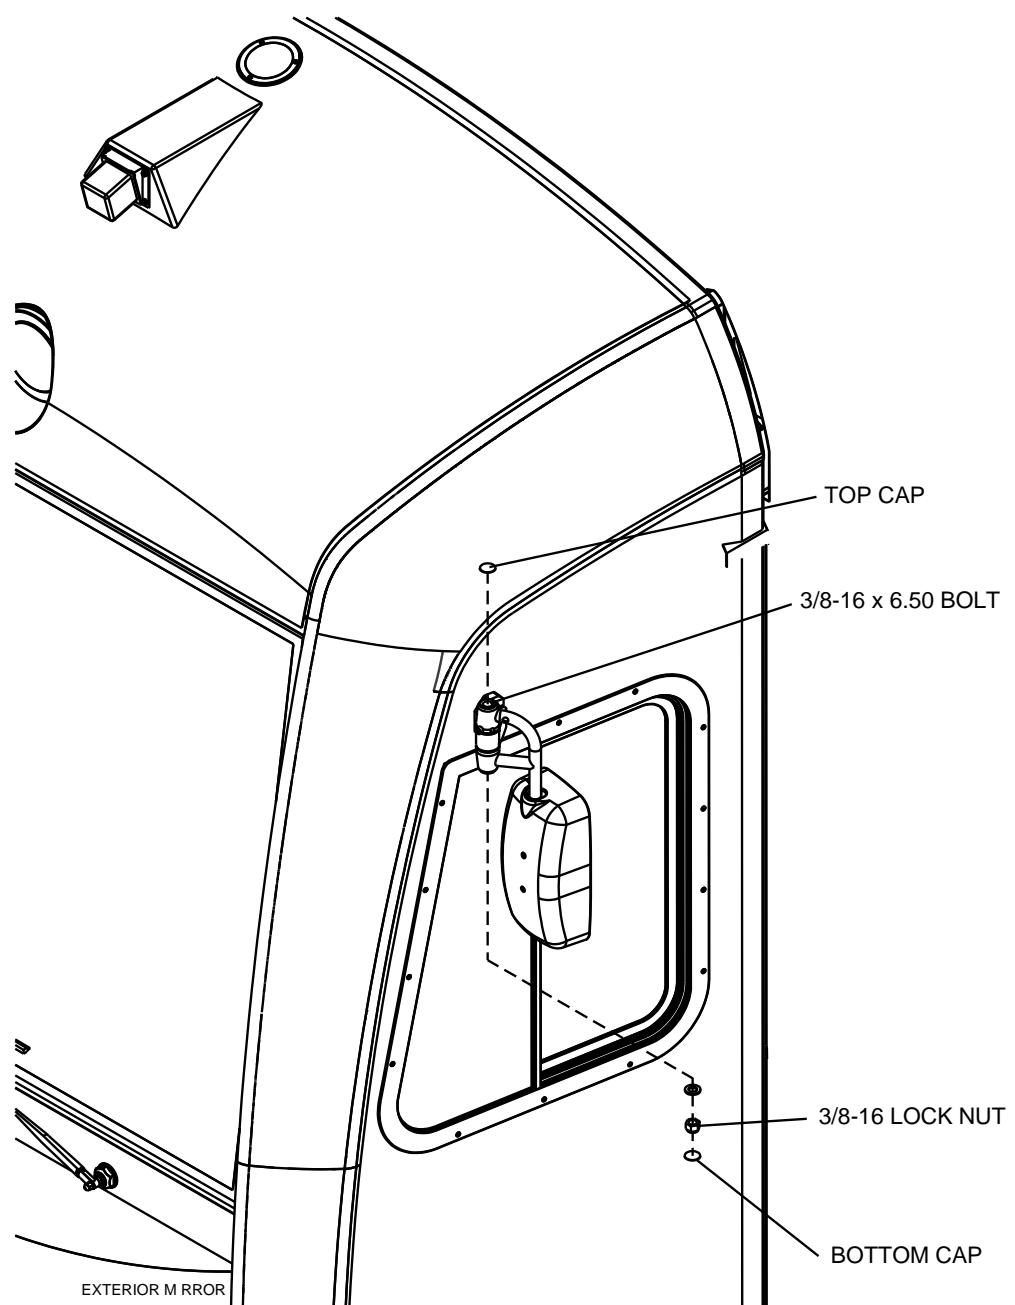

Figure 5-3: Adjustment of Exterior Mirror Detent Tension
1. Remove the top and bottom caps. See Figure 5-3.